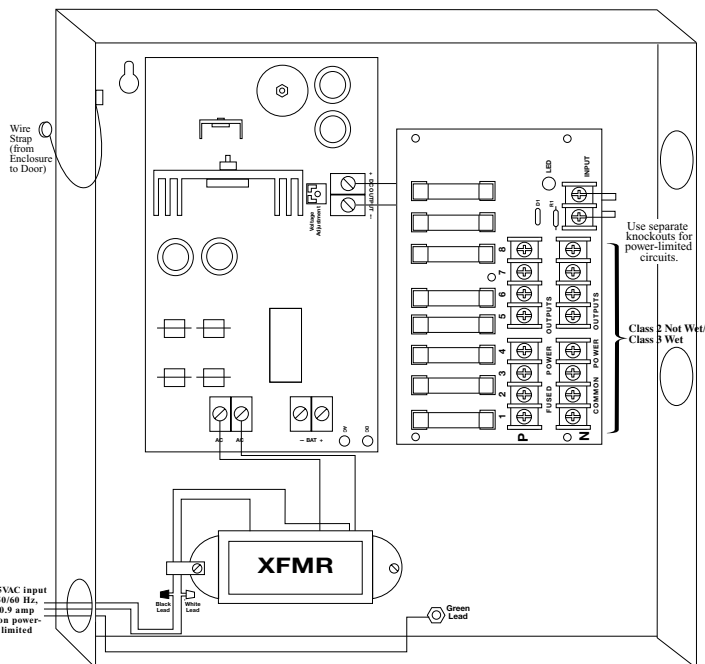

Fig. 1
- Output fuses are rated at 3.5 amp/250VAC (Fig. 1).
2. Connect green lead to earth ground. Connect AC (115VAC 50/60 Hz) to the black and white flying leads of the transformer (Fig. 1). Use knockout adjacent to the transformer. 0.25" spacing must be provided between AC input wiring and all other circuits.
5. Connect each DC CCTV cameras to the terminal pairs marked [1P-1N] through [8P-8N] on PD8 board, carefully observing correct polarity (Fig. 1).